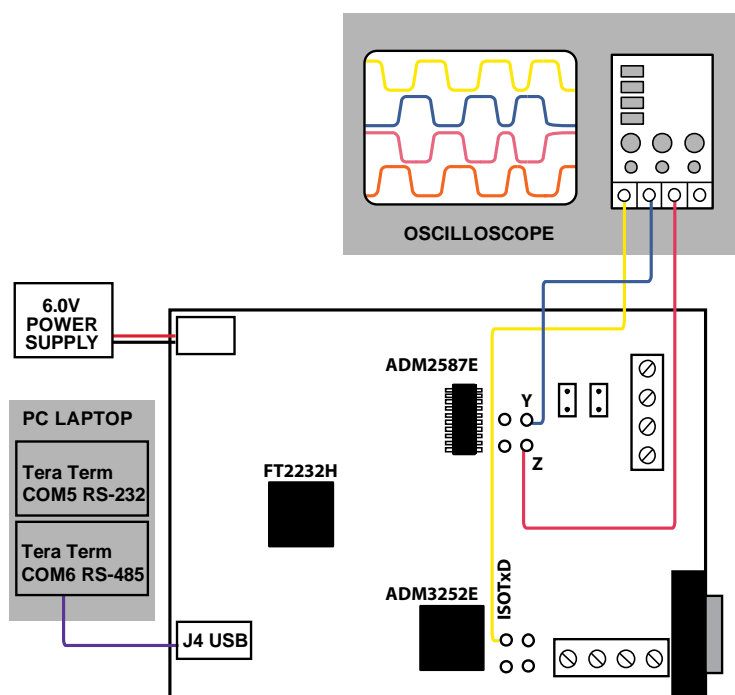

Figure 1, Test Setup and Equipment
Table 1 contains a list of equipment required for this test procedure. Set up and connect the equipment as directed and shown in Figure 1. All connection points and jumper location names refer to the labels on the CN-0167/CN-0373 evaluation board.
2. Attach an oscilloscope probe to the ISOTXD test point next to the ADM3252E transceiver as shown in Figure 1.
3. Attach an oscilloscope probe to the Y and Z test points next to the ADM2587E transceiver as shown in Figure 1.
4. Open a Tera Term emulator window, and select COM5 for RS-232 transmission, as shown in Figure 1. Set the Tera Term Serial Port baud rate to 460800. [Data: 8 bit, Parity: none, Stop: 1 Bit, Flow Control: none]
5. Open a Tera Term emulator window, and select COM6 for RS-485 transmission, as shown in Figure 1. Set the Tera Term Serial Port baud rate to 460800. [Data: 8 bit, Parity: none, Stop: 1 Bit, Flow Control: none]